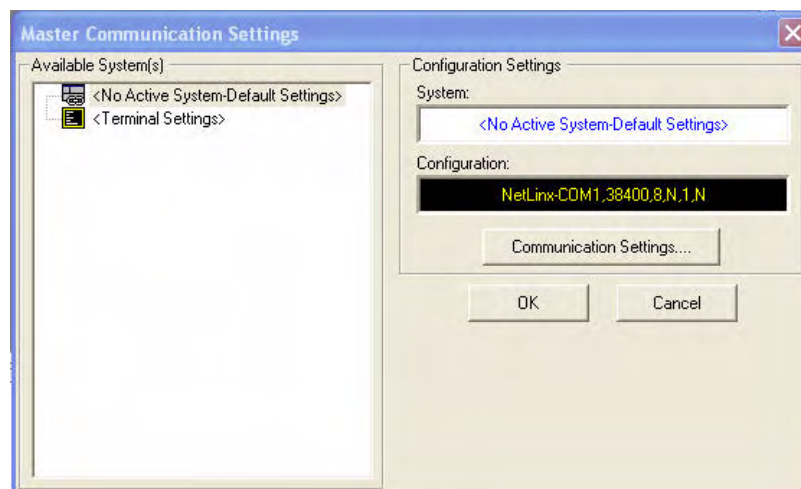

FIG. 37 Master Communications Settings dialog box
2. In NetLinx Studio, select **Settings > Master Communication Settings** from the *Main* menu to open the *Master Communication Settings* dialog (FIG. 37).